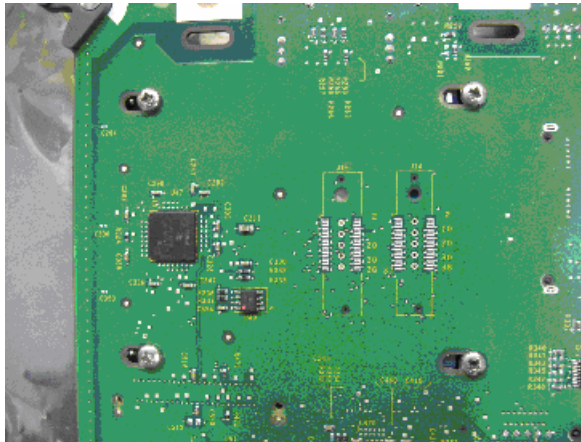

Figure 168: CP MG card hard drive screws
2. Remove the four Phillips screws on the bottom of the CP MG card to unsecure the hard drive, see Figure 168: CP MG card hard drive screws on page 598.